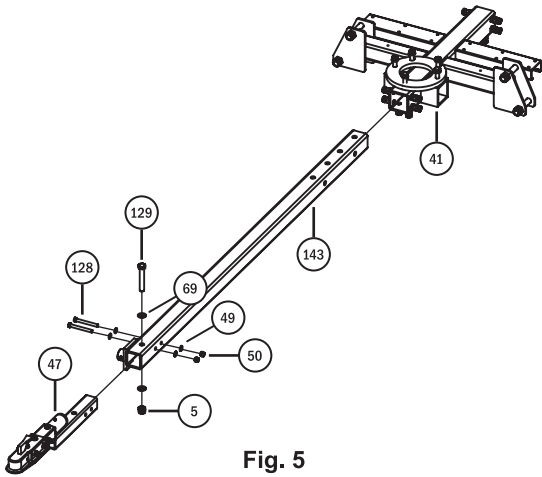

Fig. 5
**Step 8: Assemble the Tow Bar.** Assemble the Swivel Coupler (47) to the Tow Bar (143) using the Bolts (128 & 129), Washers (49 & 69), and Nuts (5 & 50). Torque the M12 Bolts (128) between 50 and 55 ft-lbs, and the M20 Bolt (129) between 240 and 260 ft-lbs. Insert the Tow Bar Assembly (143) into the Stabilizer Frame Base (41), as shown in **Fig. 5**, so that the through holes on the end of the Tow Bar Assembly (143) are not obstructed by the tube on the Stabilizer Frame Base (41), and preferably as close to the swivel coupler as possible. Do not tighten the clamping bolts.